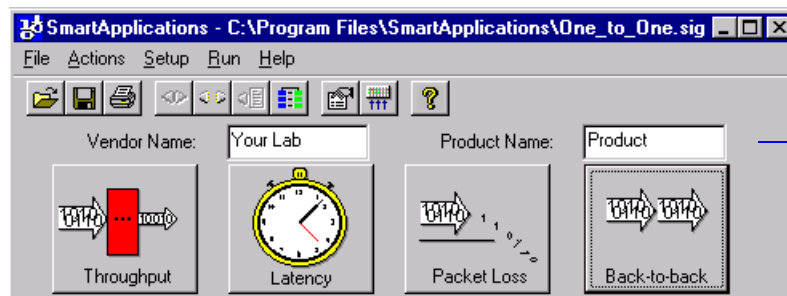

Figure 6-5. Setting the Vendor Name and Product Name for Reports
- 4 Use the **Test Comment** field to specify a *Test Comment* (see Figure 6-4 on page 134). The contents of the *Vendor Name* and *Product Name* fields can be set in the *SmartApplications* main window (Figure 6-5). (These fields also are used for ASCII test reports.)